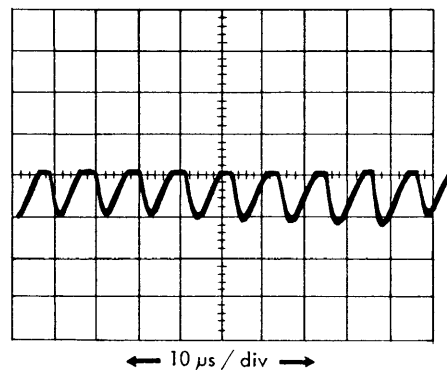

Figure 23. File Clock Oscillators (2G7-5)
3. Adjust oscillator tank circuit 2E6 (3.01.01) for minimum distortion at point where oscillators switch (Figure 23).